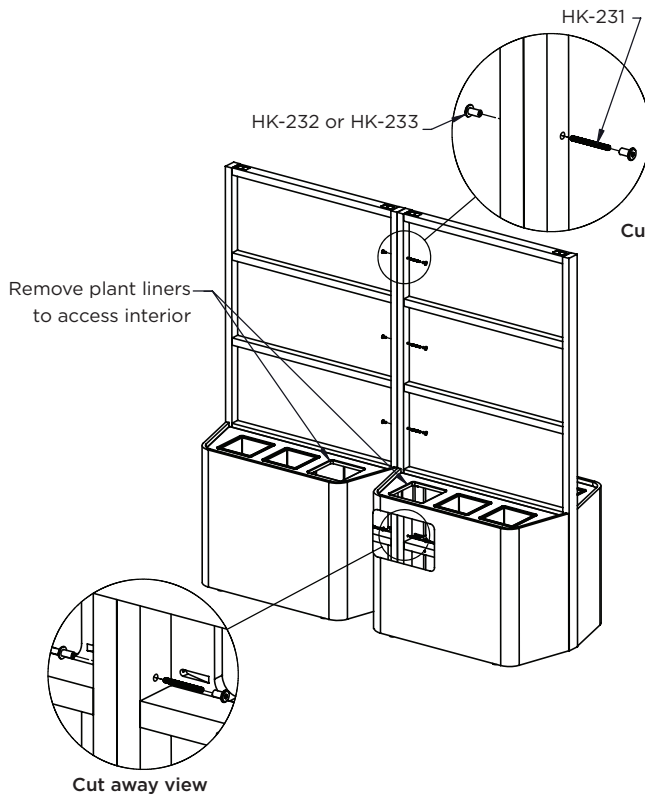

Figure 4D
- For 90"h to 90"h planters, locate ganging hardware studs (HK-231) and connector nuts (HK-232 or HK-233, color dependent). Identify the correct stud length from the table below, the length will vary depending on the infill type. Remove the plant liners on the ganging ends to access the interior of the case. Using two  $\frac{5}{32}$  hex keys, bolt the two connector nuts and stud through the frame. For 90"h to 90"h planters, there are four connector bolt joints per side. Ensure both cases remain level and aligned when tightened. (**Figure 4D**)